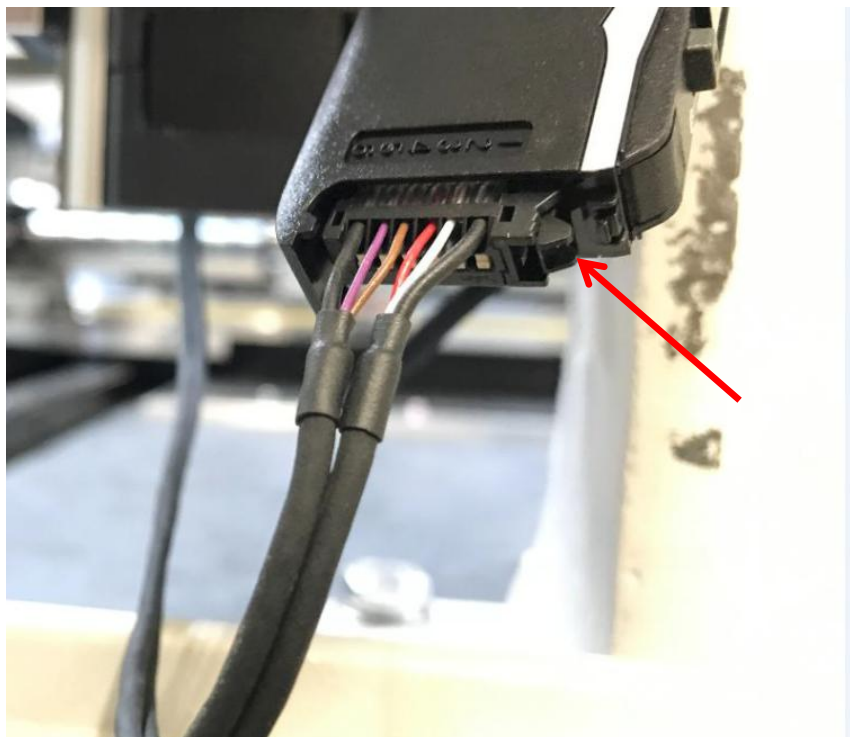

Figure 14
16. Route the Filter Height Sensor Cable to rear side of Filter Height Sensor Module. Gently press the knob and plug the Filter Sensor Head End Connector to Filter Height Sensor Amplifier as below Figure 14. Close Filter Height Sensor Amplifier cover.